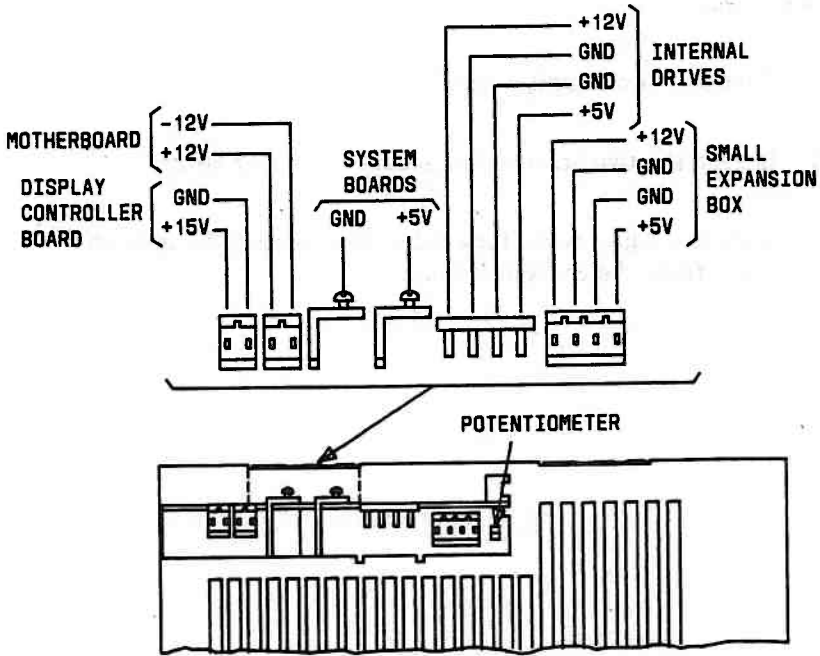

Figure 5-47. Power Supply Connectors and Potentiometer
- Place the VOM leads across the +5 V dc and GND terminals of the power supply (10 V dc or greater scale—observe polarity) (Figure 5-47).
6. Rotate the potentiometer (Figure 5-47) with a screwdriver until the VOM indicates exactly +5 V dc.